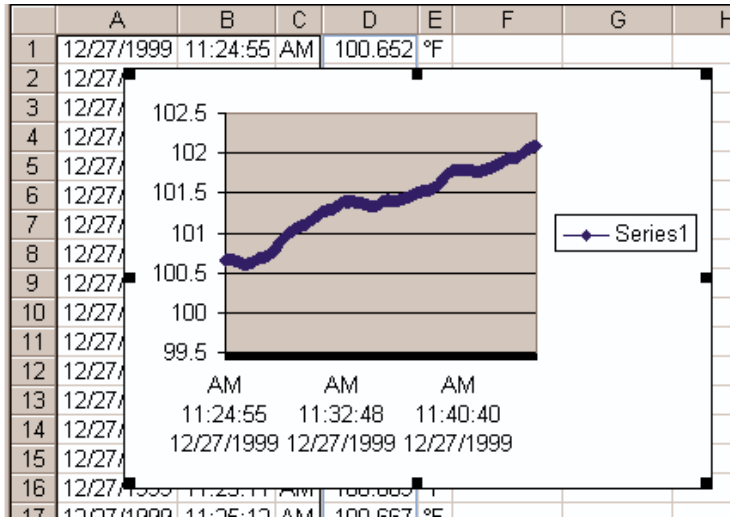

Figure 13 Chart of Output File
- The graph should be displayed as shown in Figure 13.